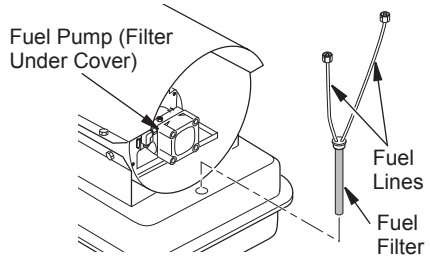
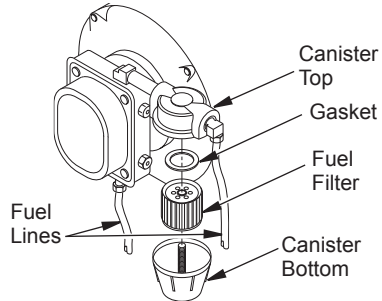

Figure 17 - Removing Tank Fuel Filter
Figure 18 - Fuel Pump Filter and Canister
1. Disconnect fuel lines from pump and fuel filter canister (if equipped) with 7/16" wrench (see Figures 17 or Figure 18 on page 13).
2. Remove fuel filter and gasket from canister bottom (see Figure 18).